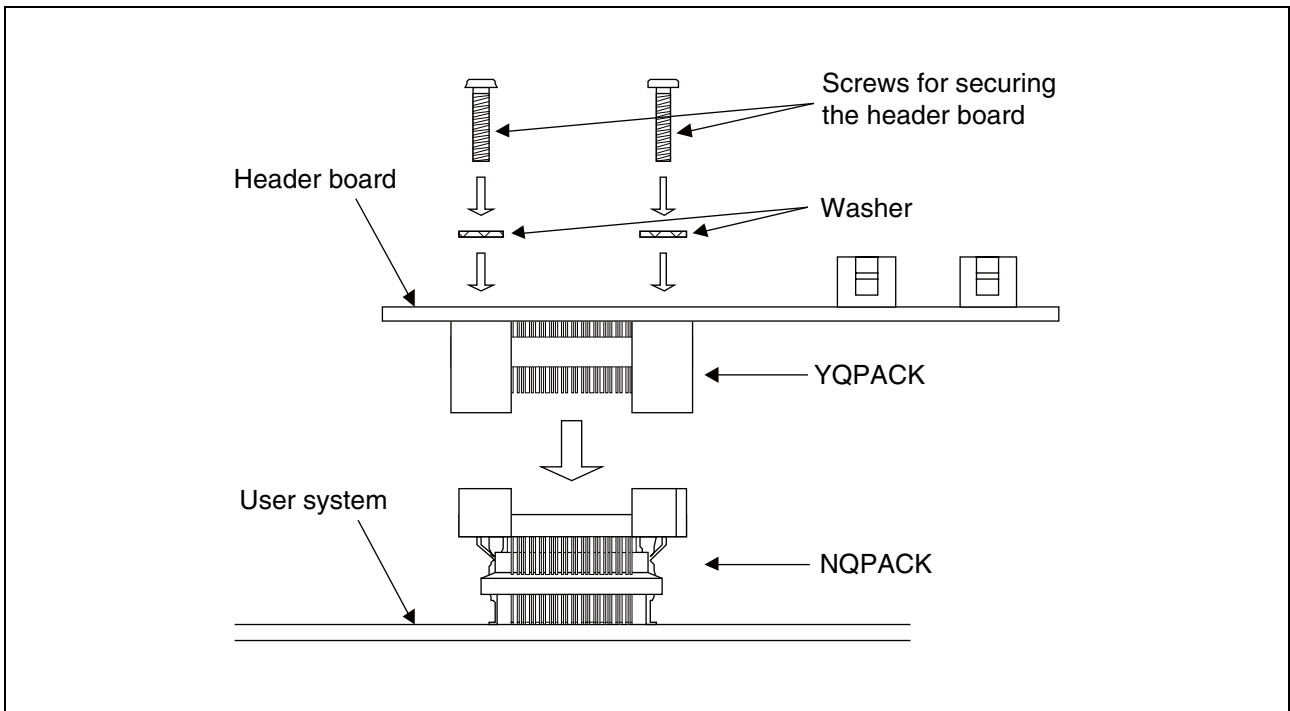

Figure 4 Header board connection
2. Insert each of the screws for securing the header board through a washer and into each of the four holes in the header board. Partially tighten one of the screws with the special screwdriver supplied with the NQPACK and then partially tighten the screw in the diagonally opposite corner. Partially tighten the two remaining screws. Finally repeat the process making the screws equally tight. (See Figure 4).